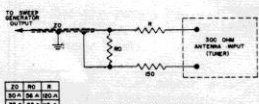

Fig. 13
15. Remove buss wire from antenna terminal. Connect the sweep generator plus marker through a balanced matching network as shown in Fig. 13 to the antenna terminal. Set the sweep generator to 213 mcs. with a 10 mcs. deviation. Adjust input to maintain output of 3V peak-peak.